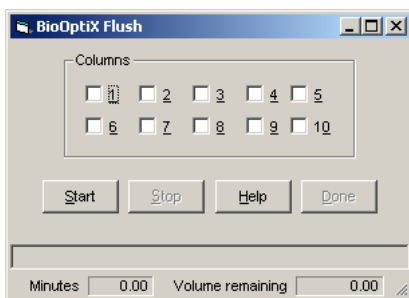

Figure 3-11 Flush window
1. Click the Yes option to flush the pumps. This opens the BioOptix 10 flush window (Figure 3-11).